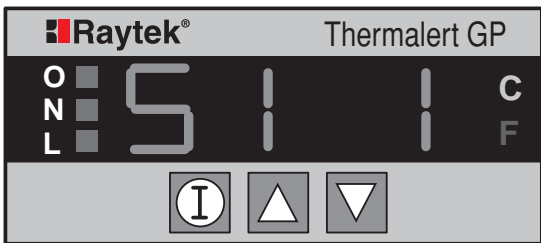

Figure 8: Setpoint Display (Showing Setpoint 1 Active)
1. In temperature/value display, press the  button until a display similar to Figure 8 appears. (Setpoint 1 shows as “S1” followed by a number 0, showing that Setpoint 1 is Inactive, or a number 1, designating active.)